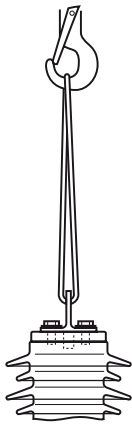

Fig. 1
- Hook rope as shown in Fig. 1.